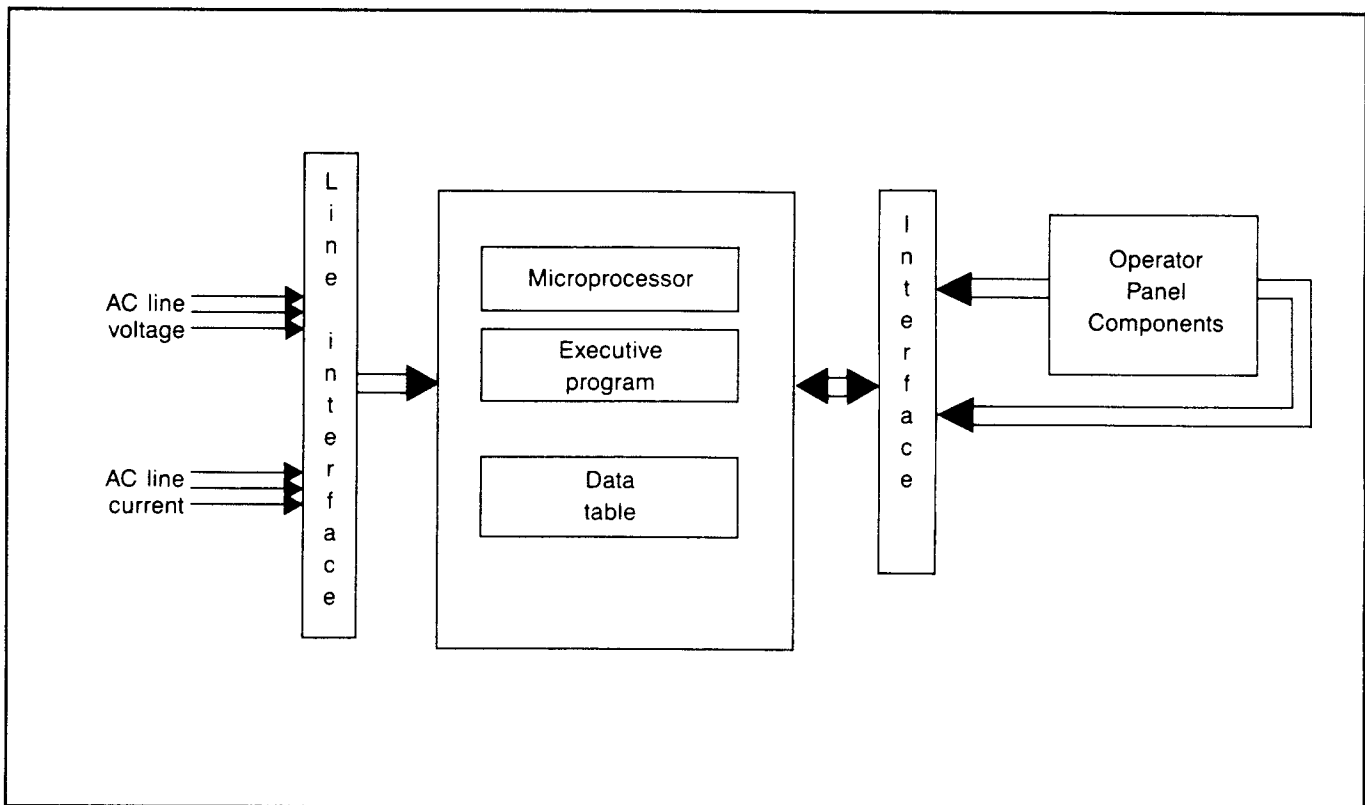

Figure 6.1 — IQ Data Basic Block
**6.1 Basic Block** — The IQ Data is controlled by a self-contained microprocessor which is directed by an "executive program" resident in ROM (read-only memory). (See Figure 6.1.) The microprocessor directs the following 2 operations: